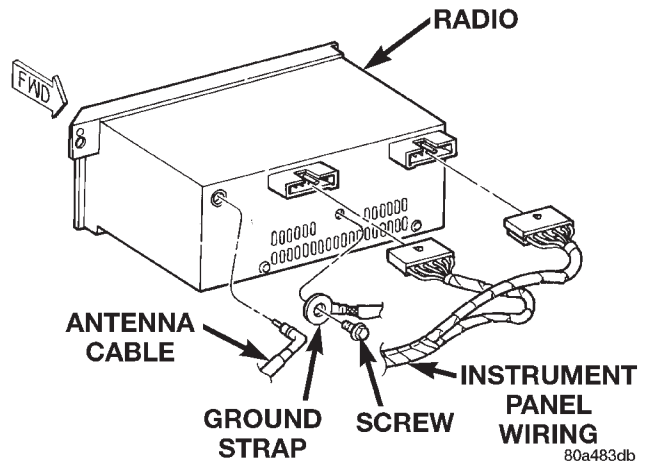

Fig. 4 Radio Connections - Typical
- (10) Pull the radio out from the instrument panel far enough to access the wire harness connectors and the antenna coaxial cable connector (Fig. 4).
- (11) Unplug the wire harness connectors and the antenna coaxial cable connector from the rear of the radio.
- (12) Remove the screw that secures the ground strap to the radio chassis.
- (13) Remove the radio from the instrument panel.